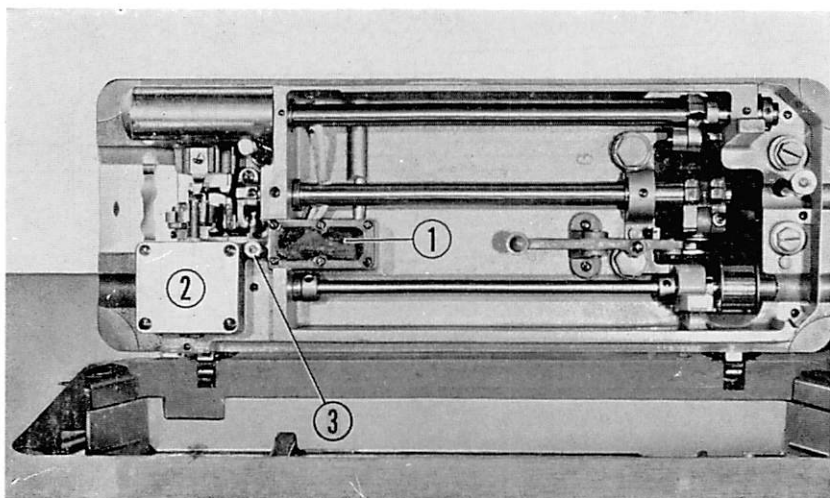

Fig. 2
Before operating the machine, fill up the hook reservoir ① and the hook shaft bevel gear reservoir ② with oil, fully. Also, inspect all oil reservoirs of various parts every 2~3 days and when they fall below the red mark, fill them up again. The oil reservoir should be filled up to the mark "HIGH" (Fig. 2)
The oiling to the sewing hook parts can be adjusted by the oil adjusting valve (Fig. 2 ③). If the adjusting valve is turned to right, the oiling amount becomes less and if turned to left, it becomes more. It